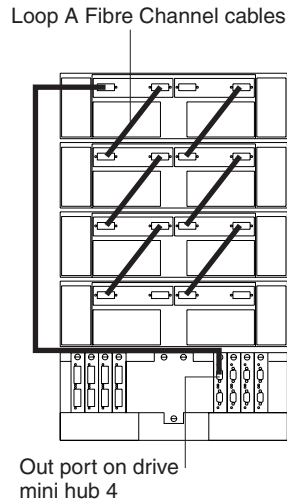

Figure 34. Connecting drive loop A to the DS4400 Storage Server
1. Connect drive loop A to the DS4400 Storage Server, as shown in Figure 34 on page 36.